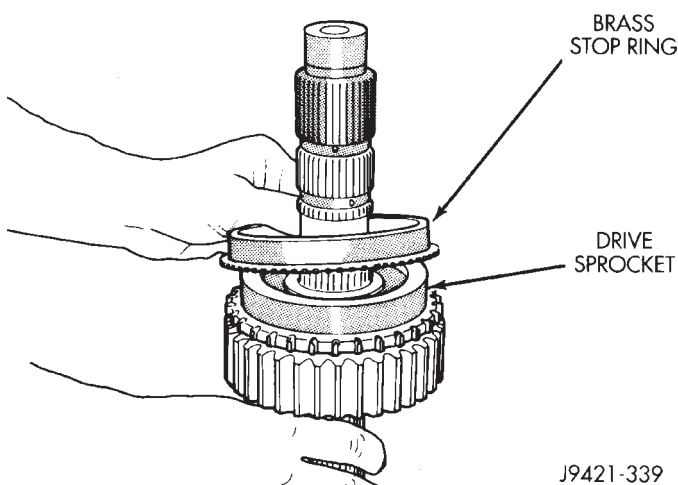

Fig. 70 Synchro Stop Ring Installation
- (2) Install brass stop ring on drive sprocket (Fig. 70).